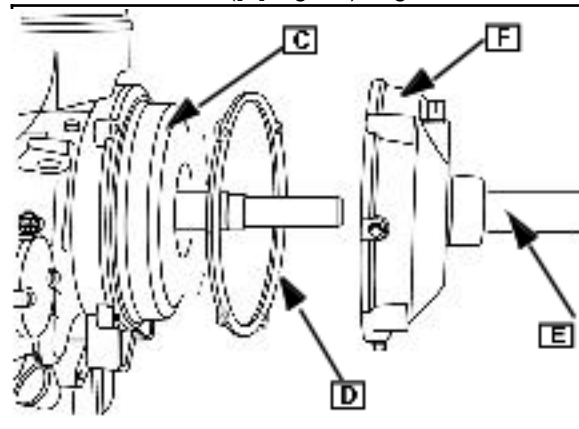

Fig. 29
Install large reduction gear (C) and cover gasket ([D] Fig. 29).
5. Insert seal protector (E) in seal of cover. Install cover ([F] Fig. 29) to gear case.